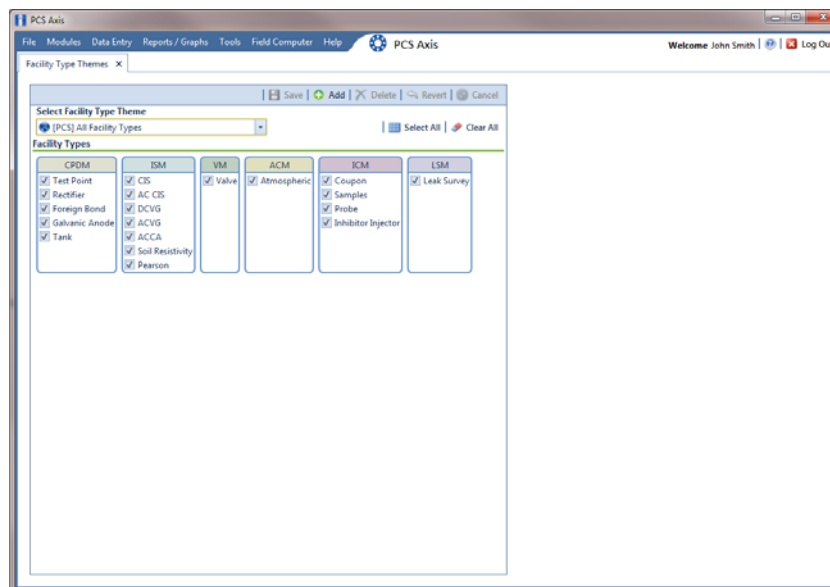

Figure 14-3. Facility Type Themes Management
- 1 If the *Facility Type Themes* window is not open, click **Tools > Facility Type Themes** (Figure 14-3).